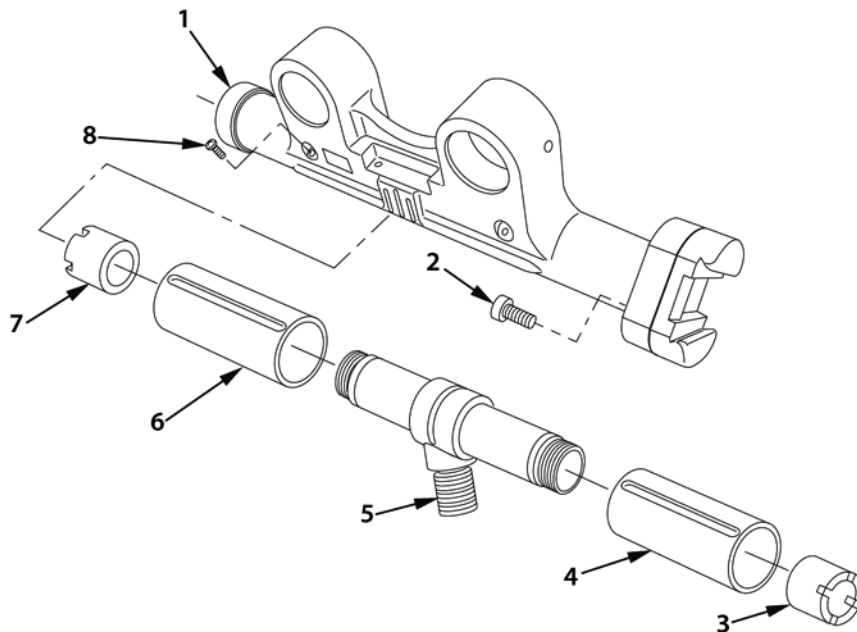

Figure 4. Installation of Flange Tee.
1. If any of four socket head capscrews (Figure 4, Item 2) is missing, apply sealing compound (WP 0032, Item 22) to threads of socket head capscREW(s).
2. Install socket head capscREW(s) (Figure 4, Item 2). Torque to 7.0 - 8.0 ft•lb (10 N•m).
3. Install sleeve bushing (Figure 4, Item 4), with lip first, onto flange tee (Figure 4, Item 5). Using spanner attachment and spanner wrench, install retainer nut (Figure 4, Item 3) and torque to 13.0 -15.0 ft•lb (19 N•m).
4. Install flange tee (Figure 4, Item 5) into traversing yoke (Figure 4, Item 1). Slide sleeve bushing (Figure 4, Item 6) onto flange tee from the end and install retainer nut (Figure 4, Item 7). Torque nut to 13.0 - 15.0 ft•lb (19 N•m) using spanner attachment and spanner wrench.
5. Apply sealing compound (WP 0032, Item 23) to threads of two socket head capscrews (Figure 4, Item 8).
6. Align slot in sleeve bushing (Figure 4, Item 6) with hole in traversing yoke (Figure 4, Item 1) and install socket head capscREW (Figure 4, Item 8). Tighten until seated. Ensure that sleeve bushing moves freely.
7. Repeat previous step for sleeve bushing (Figure 4, Item 4).